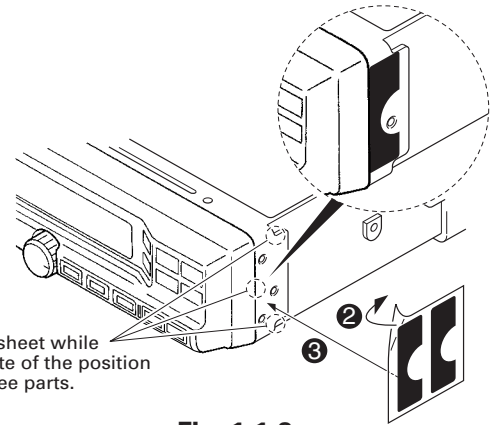

Fig. 1-1-2
4. Affixing the sheet (G11-4379-04) for the waterproof (Fig.1-1-2).
- (1) Remove the covering paper of the sheet (2).
- (2) Affix the sheet while taking note of the position of the three parts as shown in Fig.1-1-2 (3).
- (3) Repeat step (2) to affix the sheet to the other side of chassis.